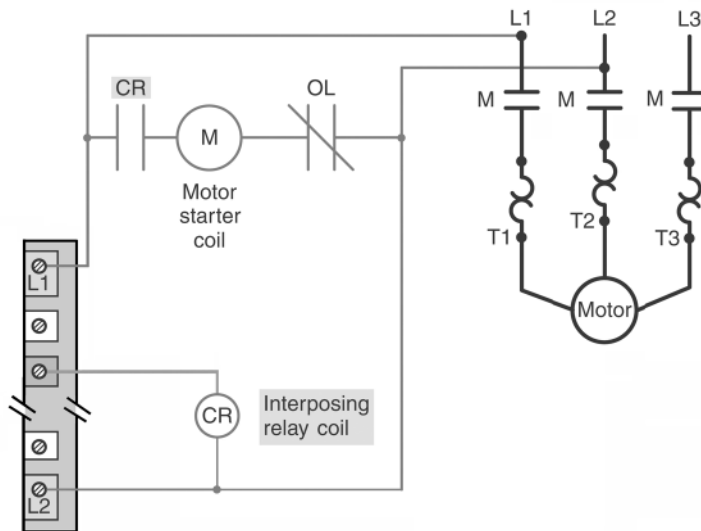

Figure 2-6 Schematic diagram for question 27.
27. The schematic diagram of Figure 2-6 is an example of